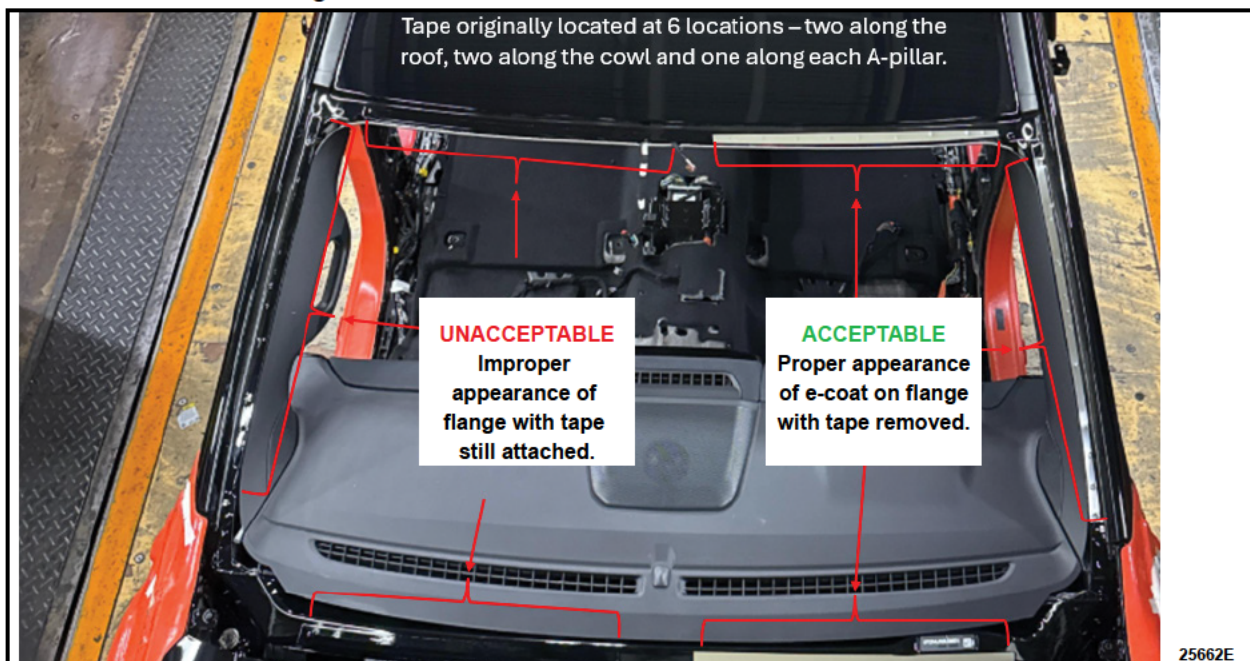

FIGURE 1
4. After removal of windshield, remove any pieces of painted masking tape from the flange that exists below the urethane as well as any urethane along the tape locations. See Figure 1.